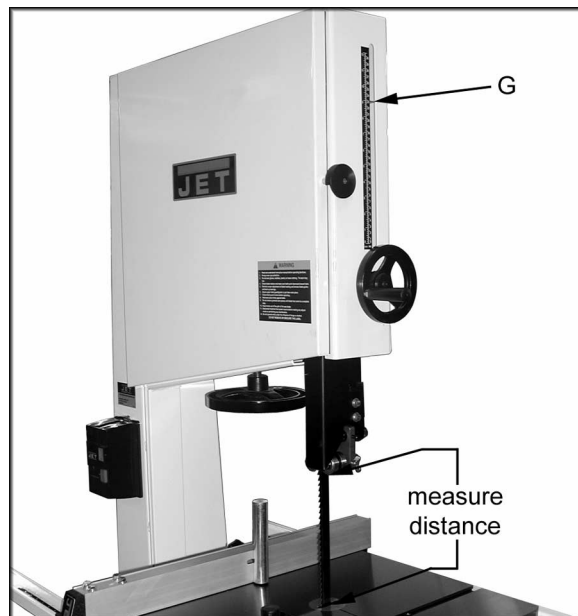

Figure 17
4. Set the indicator to this measurement on the height scale. Grasp the end of the indicator (G, Fig. 17) between your finger and thumb. Move the indicator into position.